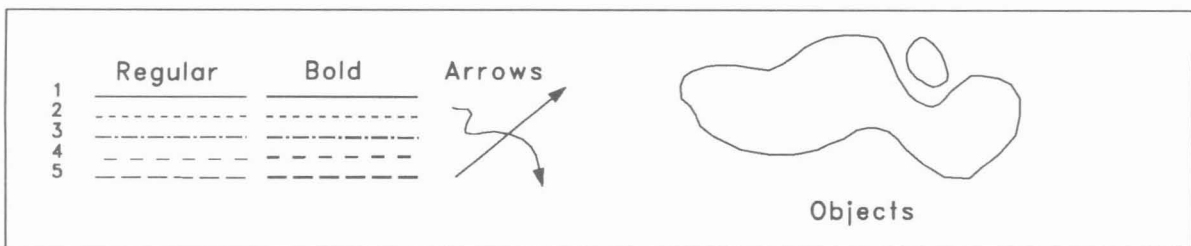

Figure 22. Examples of text and vectors.
- T: Defines and positions up to 40 text strings of up to 50 characters each (Figure 22). PLT rings the bell when the limit number of strings is reached. After a T is punched, the graphic cursor disappears and PLT waits at the lower left of the screen for you to type the string and press return. Then the graphic cursor returns to its initial position and you can type any of the following, in any position, on the screen:
- V:** To draw vectors starting at the cursor when **V** is punched and ending anywhere on the screen (2000 vectors maximum). Vectors can be used to draw **OBJECTS** (Figure 22). Move the cursor to the desired position of the vector's other end and type any of the following:
S: Symbol definition. Up to 40 symbols can be defined (Figure 22) beyond which point the terminal rings to indicate that the limit has been reached. You can specify the size of the symbol to be drawn (size is always specified before the symbol type) or the symbol itself.